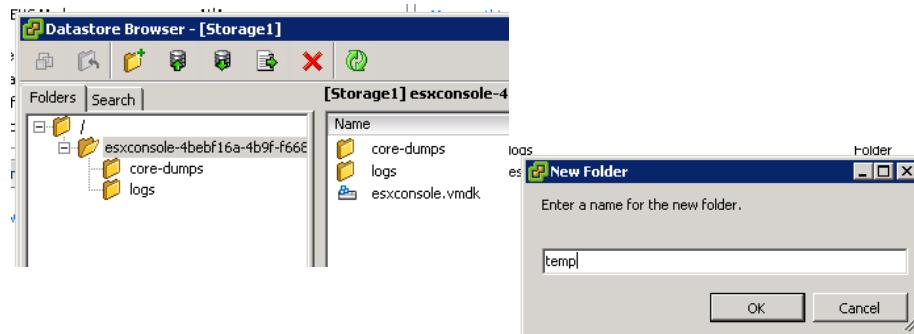

Figure 5-6. Creating a Temporary Folder in Which to Store the Driver ISO Files
10. In the Datastore Browser, create a temporary folder in which to store the driver ISO files (Figure 5-6).